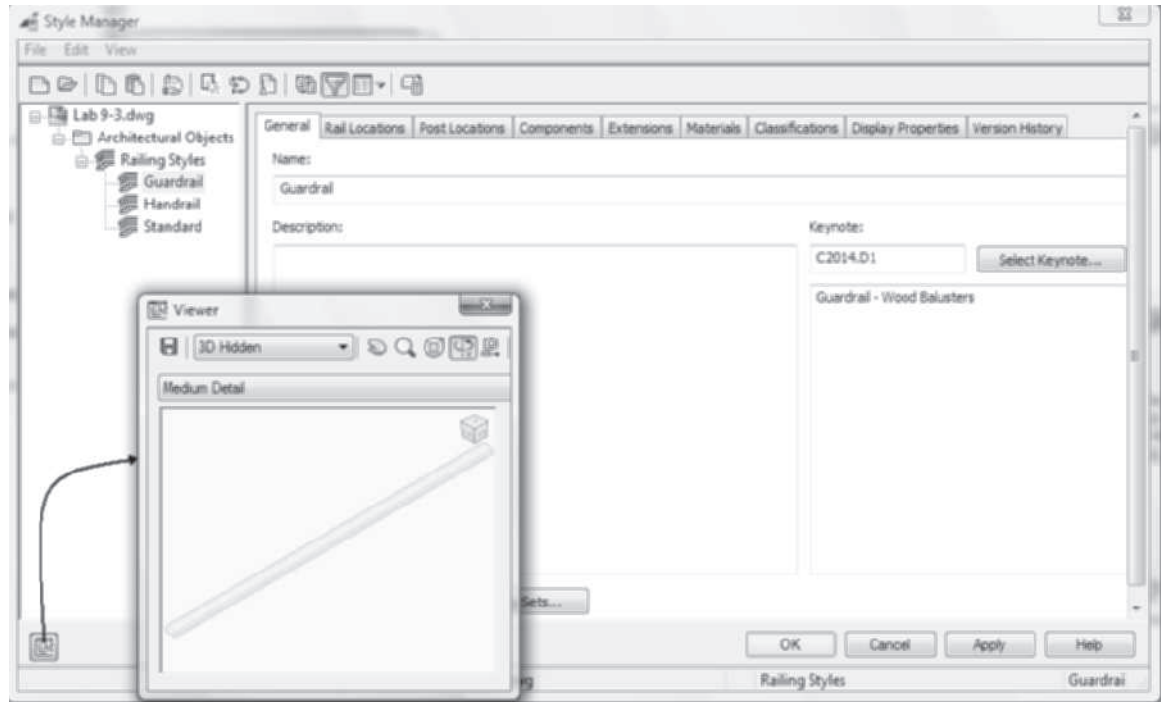

FIGURE 9.53 Railing display in Viewer
- To create a guardrail railing style that includes a handrail and balusters, select the **Handrail** style in the left pane, right-click, and choose **Copy** from the shortcut menu. Select the **Railing Styles** folder in the left pane, right-click, and choose **Paste**. Select **Handrail (2)** in the left pane, right-click, and choose **Rename**. Overtyping **Guardrail** to rename the new style. Click the **Guardrail** style in the left pane to display the railing edit tabs of the right pane. Select the **General** tab and choose the **Floating Viewer** in the lower-left corner of the Style Manager. Resize the Viewer as shown in Figure 9.53. Choose **SW Isometric** from the View flyout menu in the Viewer.